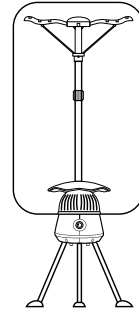

Fig. 6
5. Open all the zips on the (D) Cover – the top of the (D) Cover is above where the three zips meet; the black ring is at the bottom.
6. Place the Cover around DriBuddi, ensuring that it surrounds all your clothes and that the black ring sits around the metal grill on the (B) Motor Unit (Fig. 6).